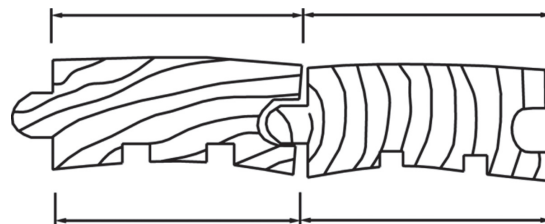

Figure 1-12 Crowning
Simply multiply these radiant thermal transfer coefficients by the temperature difference (between the panel surface temperature and the room set point temperature) and by the square footage of the panel to calculate the Btu/hr that the panel can supply to the room. Or, use Figure 1-12 to determine the panel surface temperatures required to supply a room's heat load.
- a. Floor: Find 28 Btu/hr/ft2 on the vertical axis of Figure 1-12, and move to the right until you intersect the line labeled "Floor." From this intersection, move down to the horizontal axis and read the  $\Delta T$  between the room temperature and the floor surface temperature. The result is 14.7°F.
- b. Wall: Find 36 Btu/hr/ft2 on the vertical axis of Figure 1-12 and move to the right until you intersect the line labeled "Wall." From this intersection, move down to the horizontal axis and read the  $\Delta T$  between the room temperature and the floor surface temperature. The result is 25.7°F.